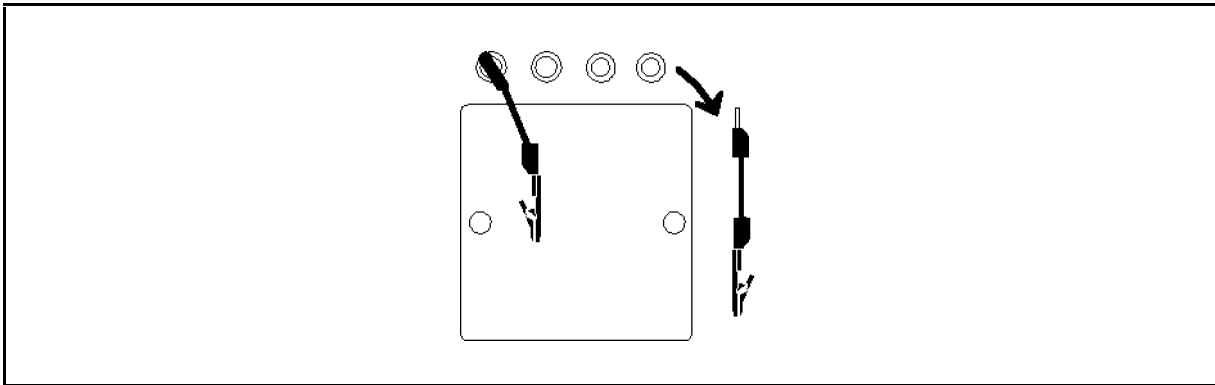

Figure 3-5. OPEN Compensation for Alligator Clips
1. Remove the alligator clips and banana cables from the INPUT terminal as shown in Figure 3-5.